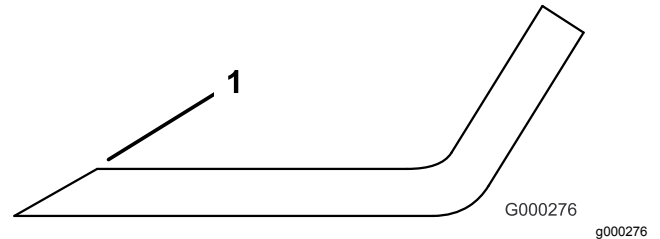

Figure 82
- Use a file to sharpen the cutting edge at both ends of the blade (Figure 82).